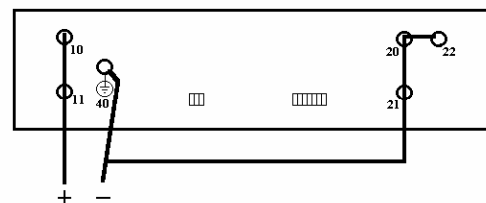

Figure 5. Input to output and input to case isolation voltage test.
4. Connect your isolation tester between input and case. See *Figure 5*. Raise the voltage of the isolation tester from 0 to 2000Vd.c. Check that the leakage current does not exceed 5µA. The voltage should not be applied for more than a few seconds or the Y-capacitors might be damaged.
2. Connect the output terminals of the converter to case. See *Figure 5*.
4. Connect your isolation tester between input and case. See *Figure 5*. Raise the voltage of the isolation tester from 0 to 2500Va.c. The voltage should not be applied for more than one (1) minute or the Y-capacitors might be damaged.